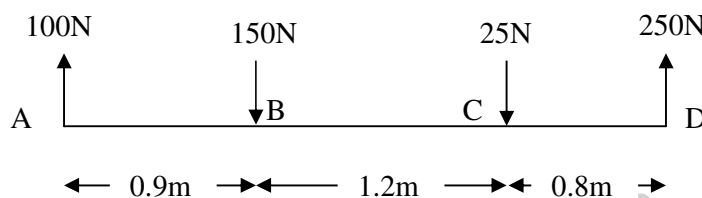

Figure 1
b) Four parallel forces of magnitude 100N, 150N, 25N and 250N are shown in Figure 1. Determine the magnitude of the resultant and also the distance of the resultant from point A.